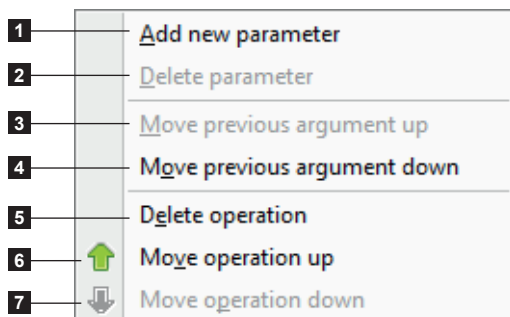

Figure 81 Formula properties
- Select the operation type in the list (1)
- Double-click on the selected operation (2) to add it to the list (3).
- Fill in the operands (4), either by entering a fixed data in the editable field or by selecting a datasource (5).
- Figure 81
- Intermediate result (6) and final result (7) of the operations are displayed.
- Validate with the OK button (8).